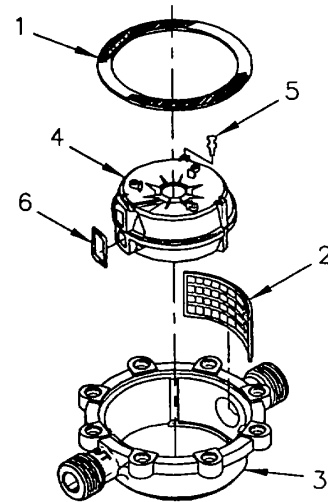
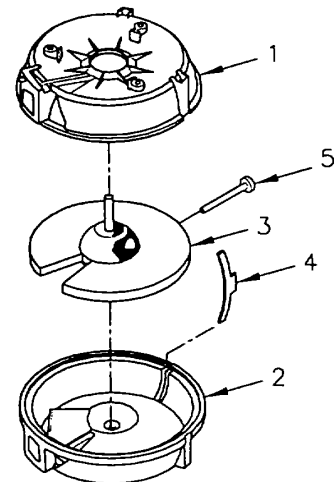

Figure 5-12. Lower Main Housing Assembly
Figure 5-13. Measuring Chamber
(1) Disassemble lower main housing assembly.
(a) Remove gasket (1, Figure 5-12) and screen (2) from lower housing (3).
(a) Separate the two halves of (1 and 2, Figure 5-13) the measuring chamber.
- (1) Insert thrust roller (5, Figure 5-13) into disc (3).
- (2) Place disc (3) in lower chamber half (2).
- (3) Place thrust insert (4) in groove of lower chamber half (2), with smooth edge to the inside.
- (4) Place upper chamber half (1) on lower chamber half (2), fitting insert (4) into slot in upper chamber half (1).
- (5) Place port gasket (6, Figure 5-12) over hole in chamber assembly (4).
- (6) Place screen in lower housing (3).
- (7) Slide chamber assembly (4) into lower housing (3). Ensure that port gasket (6) is lined up with outlet port in lower housing (3).
- (8) Place retaining spring (5) in its slot on chamber assembly (4). Retaining spring will sit in slots with crosspieces up.
- (9) Check disc to make sure it is installed correctly by blowing into outlet port on lower housing. It should nutate with little blowing effort. If it does not nutate freely, make sure you are blowing into outlet port. If it still does not nutate freely, replace chamber disc assembly.
- (10) Place new upper gasket (1) on lower housing (3).